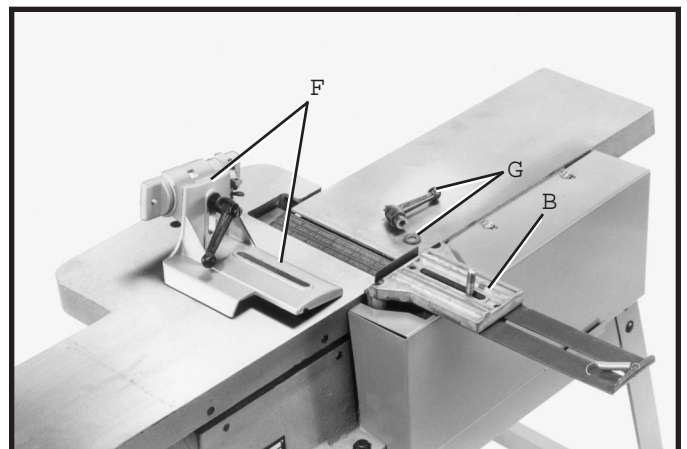

Fig. 14
2. Place fence support bracket (F) Fig. 14, over rod in slide bracket assembly (B) and fasten with flat washer and locking lever (G).